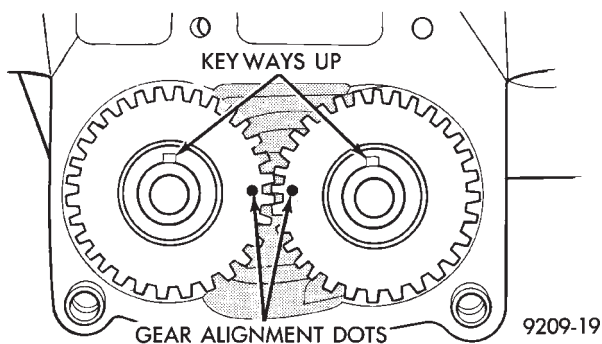

Fig. 44 Gear Timing
(2) Turn balance shafts until both shaft key ways are up Parallel to vertical centerline of engine. Install short hub drive gear on sprocket driven shaft and long hub gear on gear driven shaft. After installation gear and balance shaft keyways must be up with gear timing marks meshed as shown in (Fig. 44).